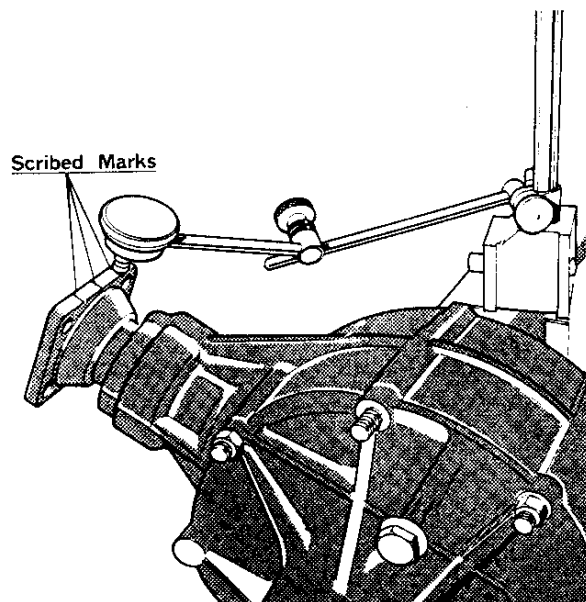

Figure 14 Determining pinion to crown wheel backlash using a dial gauge
1. With pinion flange horizontal, scribe a centre line on the top end of the flange and a line 7/8 in on either side of it. (**Figure 14**). This represents the overall diameter of the pinion.
2. Set up a dial gauge indicator on a magnetic base as shown in **Figure 14**.